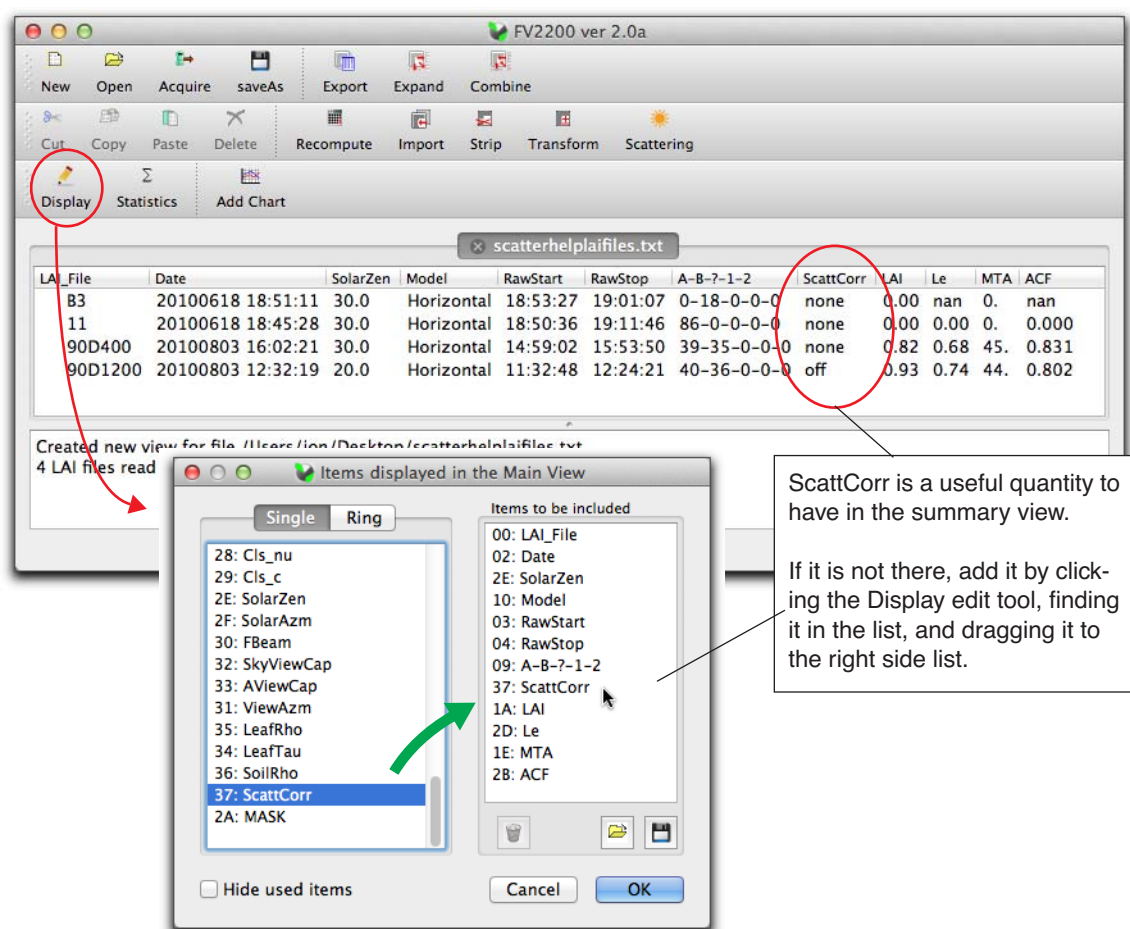

Figure 1: Preparing the main view for scattering corrections.
All computed values in FV2200 (LAI, MTA, Gaps, etc.) reflect the effects of the scattering correction if it is enabled; there are no duplicate sets of values (i.e. no LAI_with_scattering, LAI_without_scattering, etc.). There is one quantity (*ScattCorr*) however that tells you whether the correction has been applied to that file, and if so, how much it affected LAI (see Figure 4 on page 5). This is a quantity you’ll want displayed, and Figure 1 on page 3 shows how to set it up.
Step 1. Put the variable *ScattCorr* into the summary view (Figure 1). This tells you what files have been scatter-corrected, and by how much.